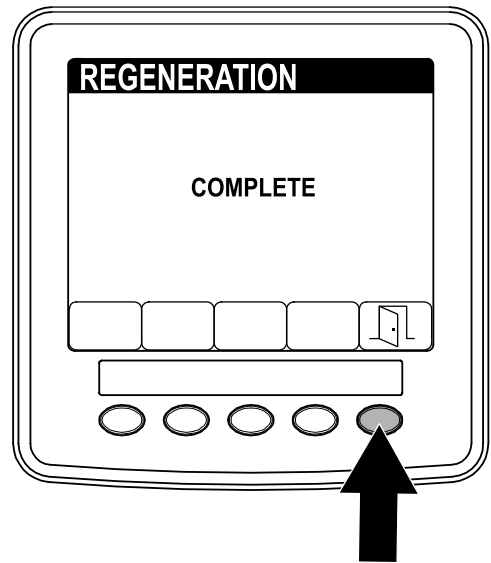

Figure 54
5. When regeneration completes, the COMPLETE screen displays in the InfoCenter. Press button 5 to return to the SERVICE menu (Figure 54).